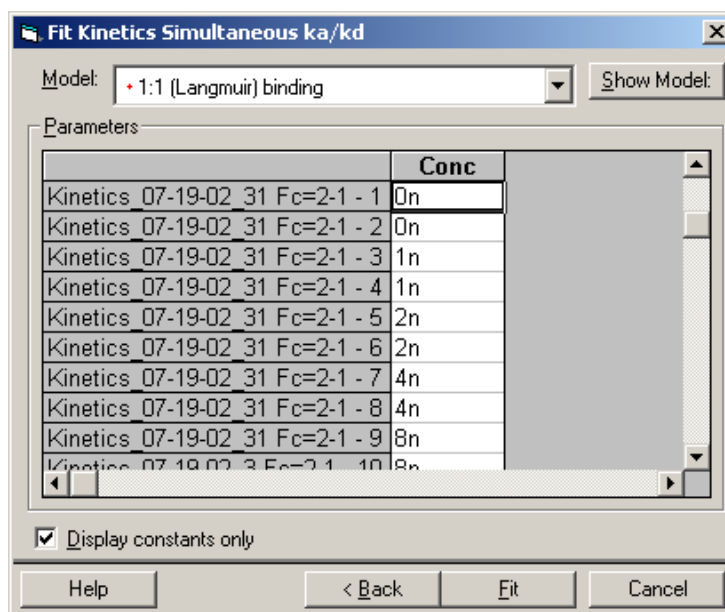

Figure 6.11
6.30 Data fit window (Fig 6.11) will open